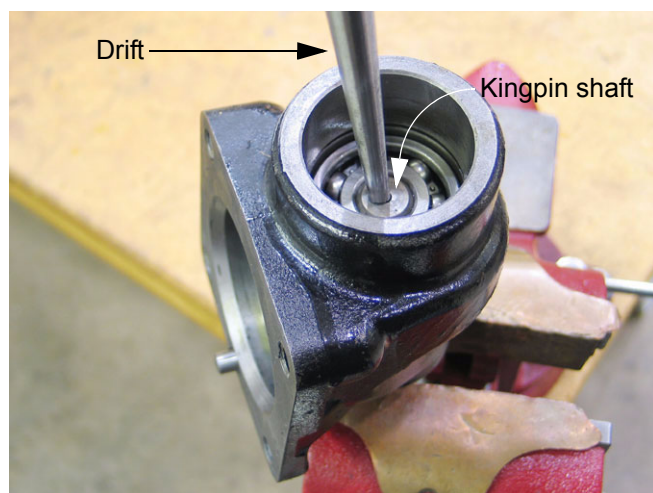

Figure 8.3
- 8.3. Carefully drive the kingpin shaft out the bottom of the kingpin housing. See Figure 8.3.